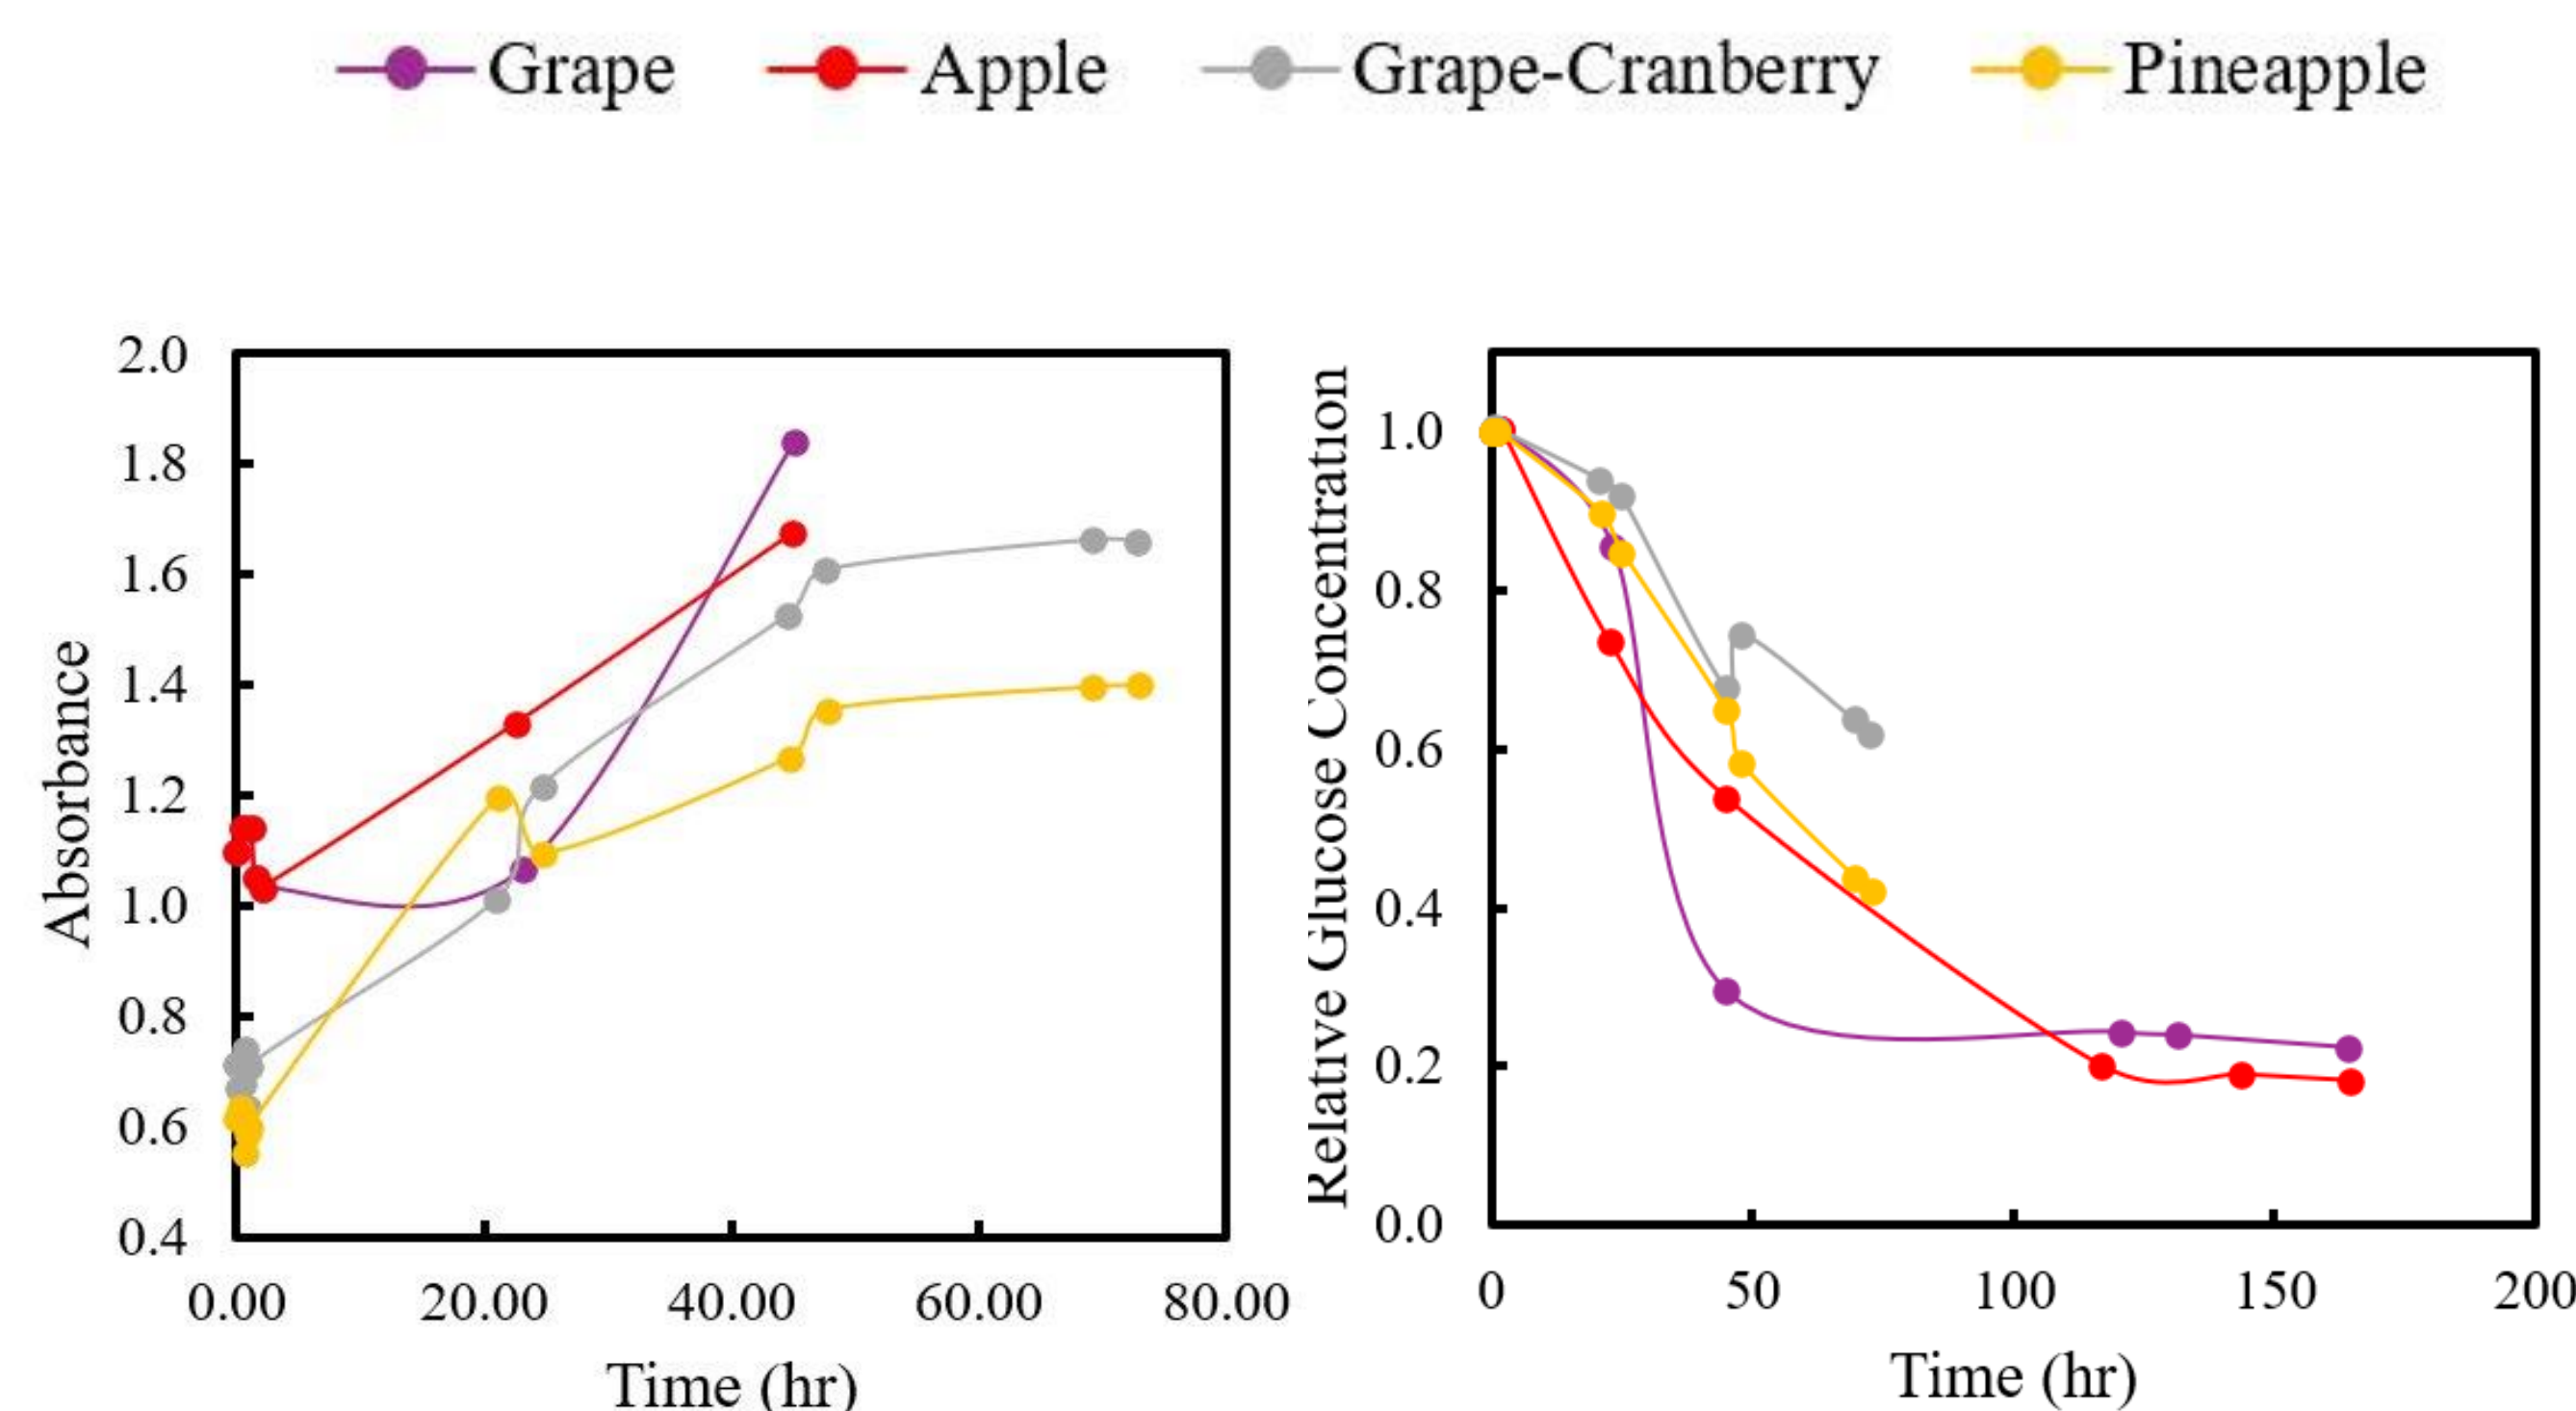

Figure 1. Absorbance vs. time (hr) for bioreactor samples of fermented fruit juices
- In Fig. 1, at time of 50 hours the ethanol concentration is substantial enough to inhibit cell growth.